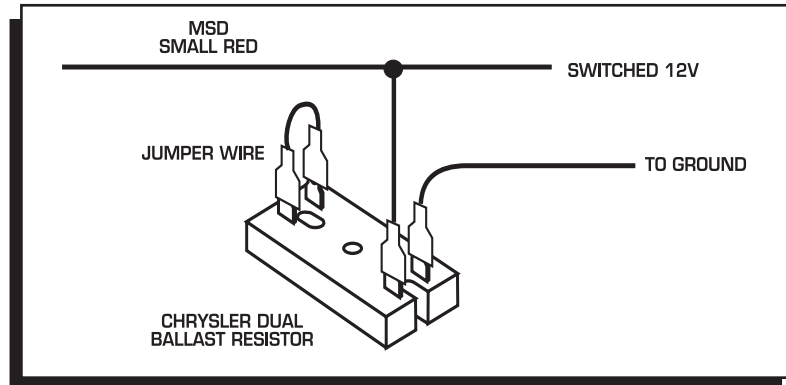

**Figure 5 Installing the Diode to fix Run-On.**
**Early Ford and GM:** To solve the Run-On problem, a Diode is supplied with the MSD in the parts bag. By installing this Diode in-line of the wire that goes to the Charging indicator, the voltage is kept from entering the MSD. Figure 5 shows the proper installation for early Ford and GM engines.
**Note:** Diodes are used to allow voltage to flow only one way. Make sure the Diode is installed facing the proper direction (as shown in Figure 5).
GM Delcotron Alternators use an internal voltage regulator. Install the Diode in-line on the smallest wire exiting the alternator (Figure 5). It is usually a Brown wire.